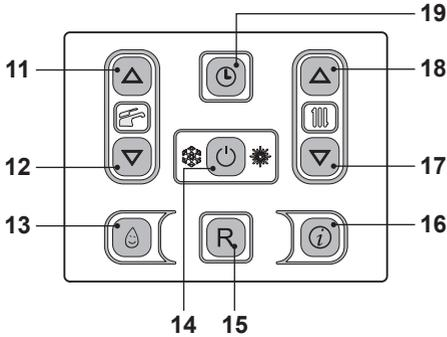
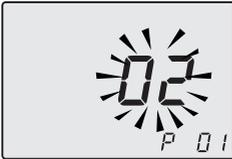

Fig. 7.20
Fig. 7.21
- Enter in "programming mode" by pressing keys 14 - 17 - 18 (Fig. 7.20) for 10 seconds at the same time until the letters **P01** are displayed on the LCD display, indicating that "parameter 01, has been activated (Fig. 7.21).
- By pressing key 14 (Fig. 7.20) confirmation of the inserted value is obtained.
- Press keys 17 or 18 (Fig. 7.20) to exit without changing the value Fig. 7.22)
However, if the ambient temperature is not comfortable, the flow temperature of the heating plant can be increased or reduced by $\pm 15^\circ\text{C}$ by acting on keys 17 (reduce) and 18 (increase) (Fig. 7.20).